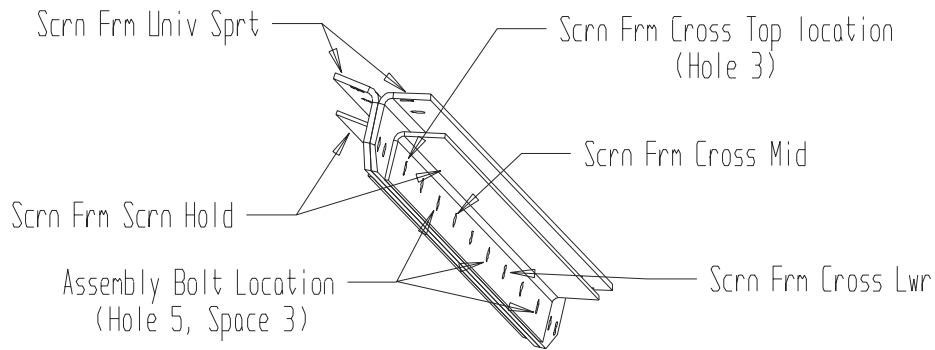

Fig. 4-1
1. **Using the chart 4-1 provided on page (29)** check the location of the associated components, and preassemble the required number of components as follows.
2. **Bolt together two *SCRN FRM UNIV SPRT* angles with a *SCRN FRM SCR N HOLD* on either side using 3/8" x 1-3/4" Grade 5 bolts and flanged lock nuts for each required assembly. Verify that the proper holes are selected for future component installation and tighten these bolts.** (See Fig. 4-1 and Chart 4-1 for Bolt Spacing.)